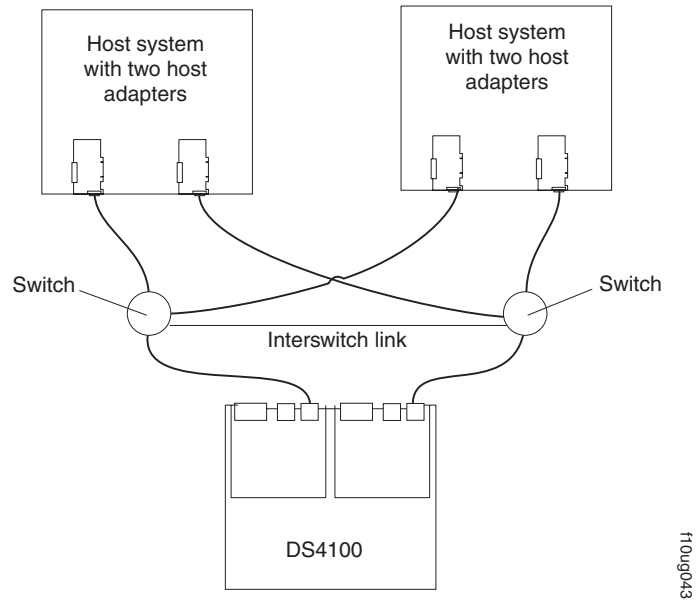

Figure 26. Example of a single SAN fabric configuration (base storage server)
- Single SAN fabric configuration, as shown in Figure 26 on page 39
In Figure 26 on page 39, the fibre channel switches are connected together via the inter-switch link (ISL) to form a single SAN fabric.